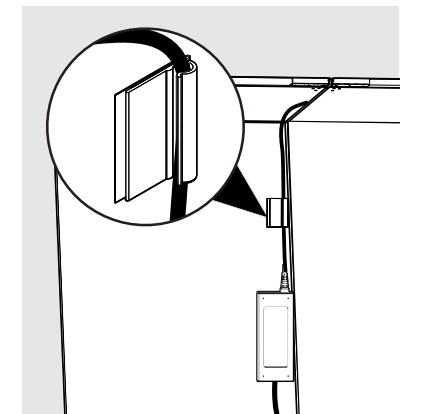

Fig. 5
- If the power supply cannot be placed on top of the unit, adhere it vertically on the back wall of the unit and make sure the connection of the 3-prong connector to the power supply is facing down (Fig. 5).